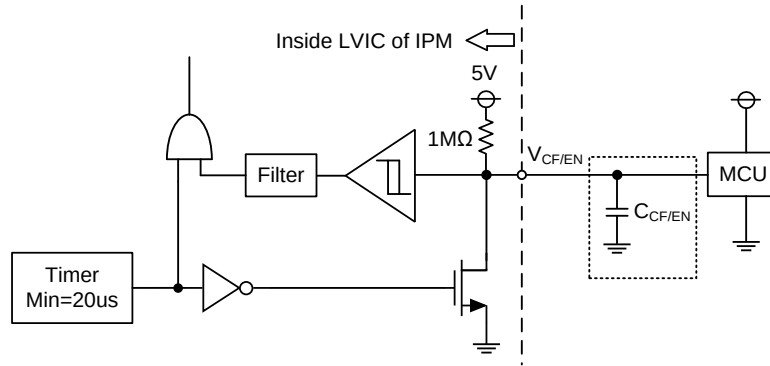

Figure 2. CF/EN Circuit
- Fault signal ($V_{CF/EN}$) outputs when SC, UV or OT protection is triggered. Its duration time can be controlled by using the capacitor (see Figure 2). It is noted that CF/EN output has min. 20 μs of t_{FO} pulse width when SC protection works.
If the external capacitor $C_{CF/EN}$ (1nF) is connected as shown in Figure 2, t_{FO} is adjusted as the following equation;
- (1) GND pattern: The star ground design is recommended. GND pattern should be separated from the one point of the shunt resistors. PCB patterns of A, B and C needs to be as short as possible to prevent the noise-caused malfunction.
- (2) Bootstrap and VDD supply capacitors: It is recommended that all capacitors are mounted as close to VB(x) and VDD of the IPM as possible. In addition, it is recommended to use C_{B1} , C_{B2} , C_{VDD1} and C_{VDD2} with good temperature and frequency characteristics.
- (3) A zener diode D_B and D_{VDD} (18V/1W) are recommended between each pair of control supply pins to avoid damage by external surges. Additionally, it is recommended to add the resistance R_{VDD} (10 Ω) to the VDD in series to prevent damage cause by external surges.
- (4) Snubber capacitor: Prevention of surge destruction can further be improved by placing the bus capacitor C_{DC} as close to pin P and N1 as possible.
- (5) CSC circuit: Switching noise filter of R_{CSC} and C_{CSC} should be placed as close to CSC pin and COM(13) pin as possible to prevent protection function errors. It is recommended to use R_{CSC} and C_{CSC} with low tolerance and temperature-compensated type. Time constant of the filter can be determined considering switching frequency, which is selected within typically $1\mu s$ in general motor drives.
- (6) Input circuit: The R_{IN} and C_{IN} filter circuit is recommended to place as close to IPM as possible to reduce input signal noise by switching operation. Typically, they are recommended 100Ω and $1nF$, respectively.
- (7) CF/EN circuit: $C_{CF/EN}$ can adjust fault output pulse duration time t_{FO} . Without $C_{CF/EN}$, t_{FO} has fixed $20\mu s$ (min.) pulse width. For the design guide, please refer to the Figure 2.